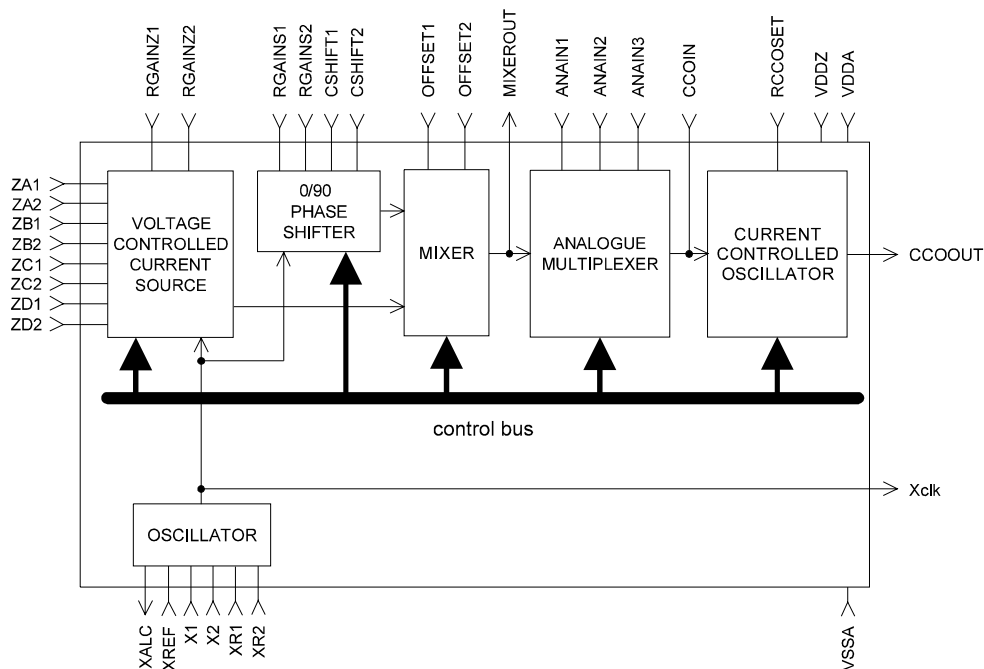

Figure 4. Block-diagram of the MCM100 analogue part.
- The analogue part (of which a block diagram is given in Figure 4) can measure: 4 complex impedance's (R L C) and 3 analogue signals (e.g. temperature).
The analogue part contains six blocks that will be described in this section (see Figure 4).